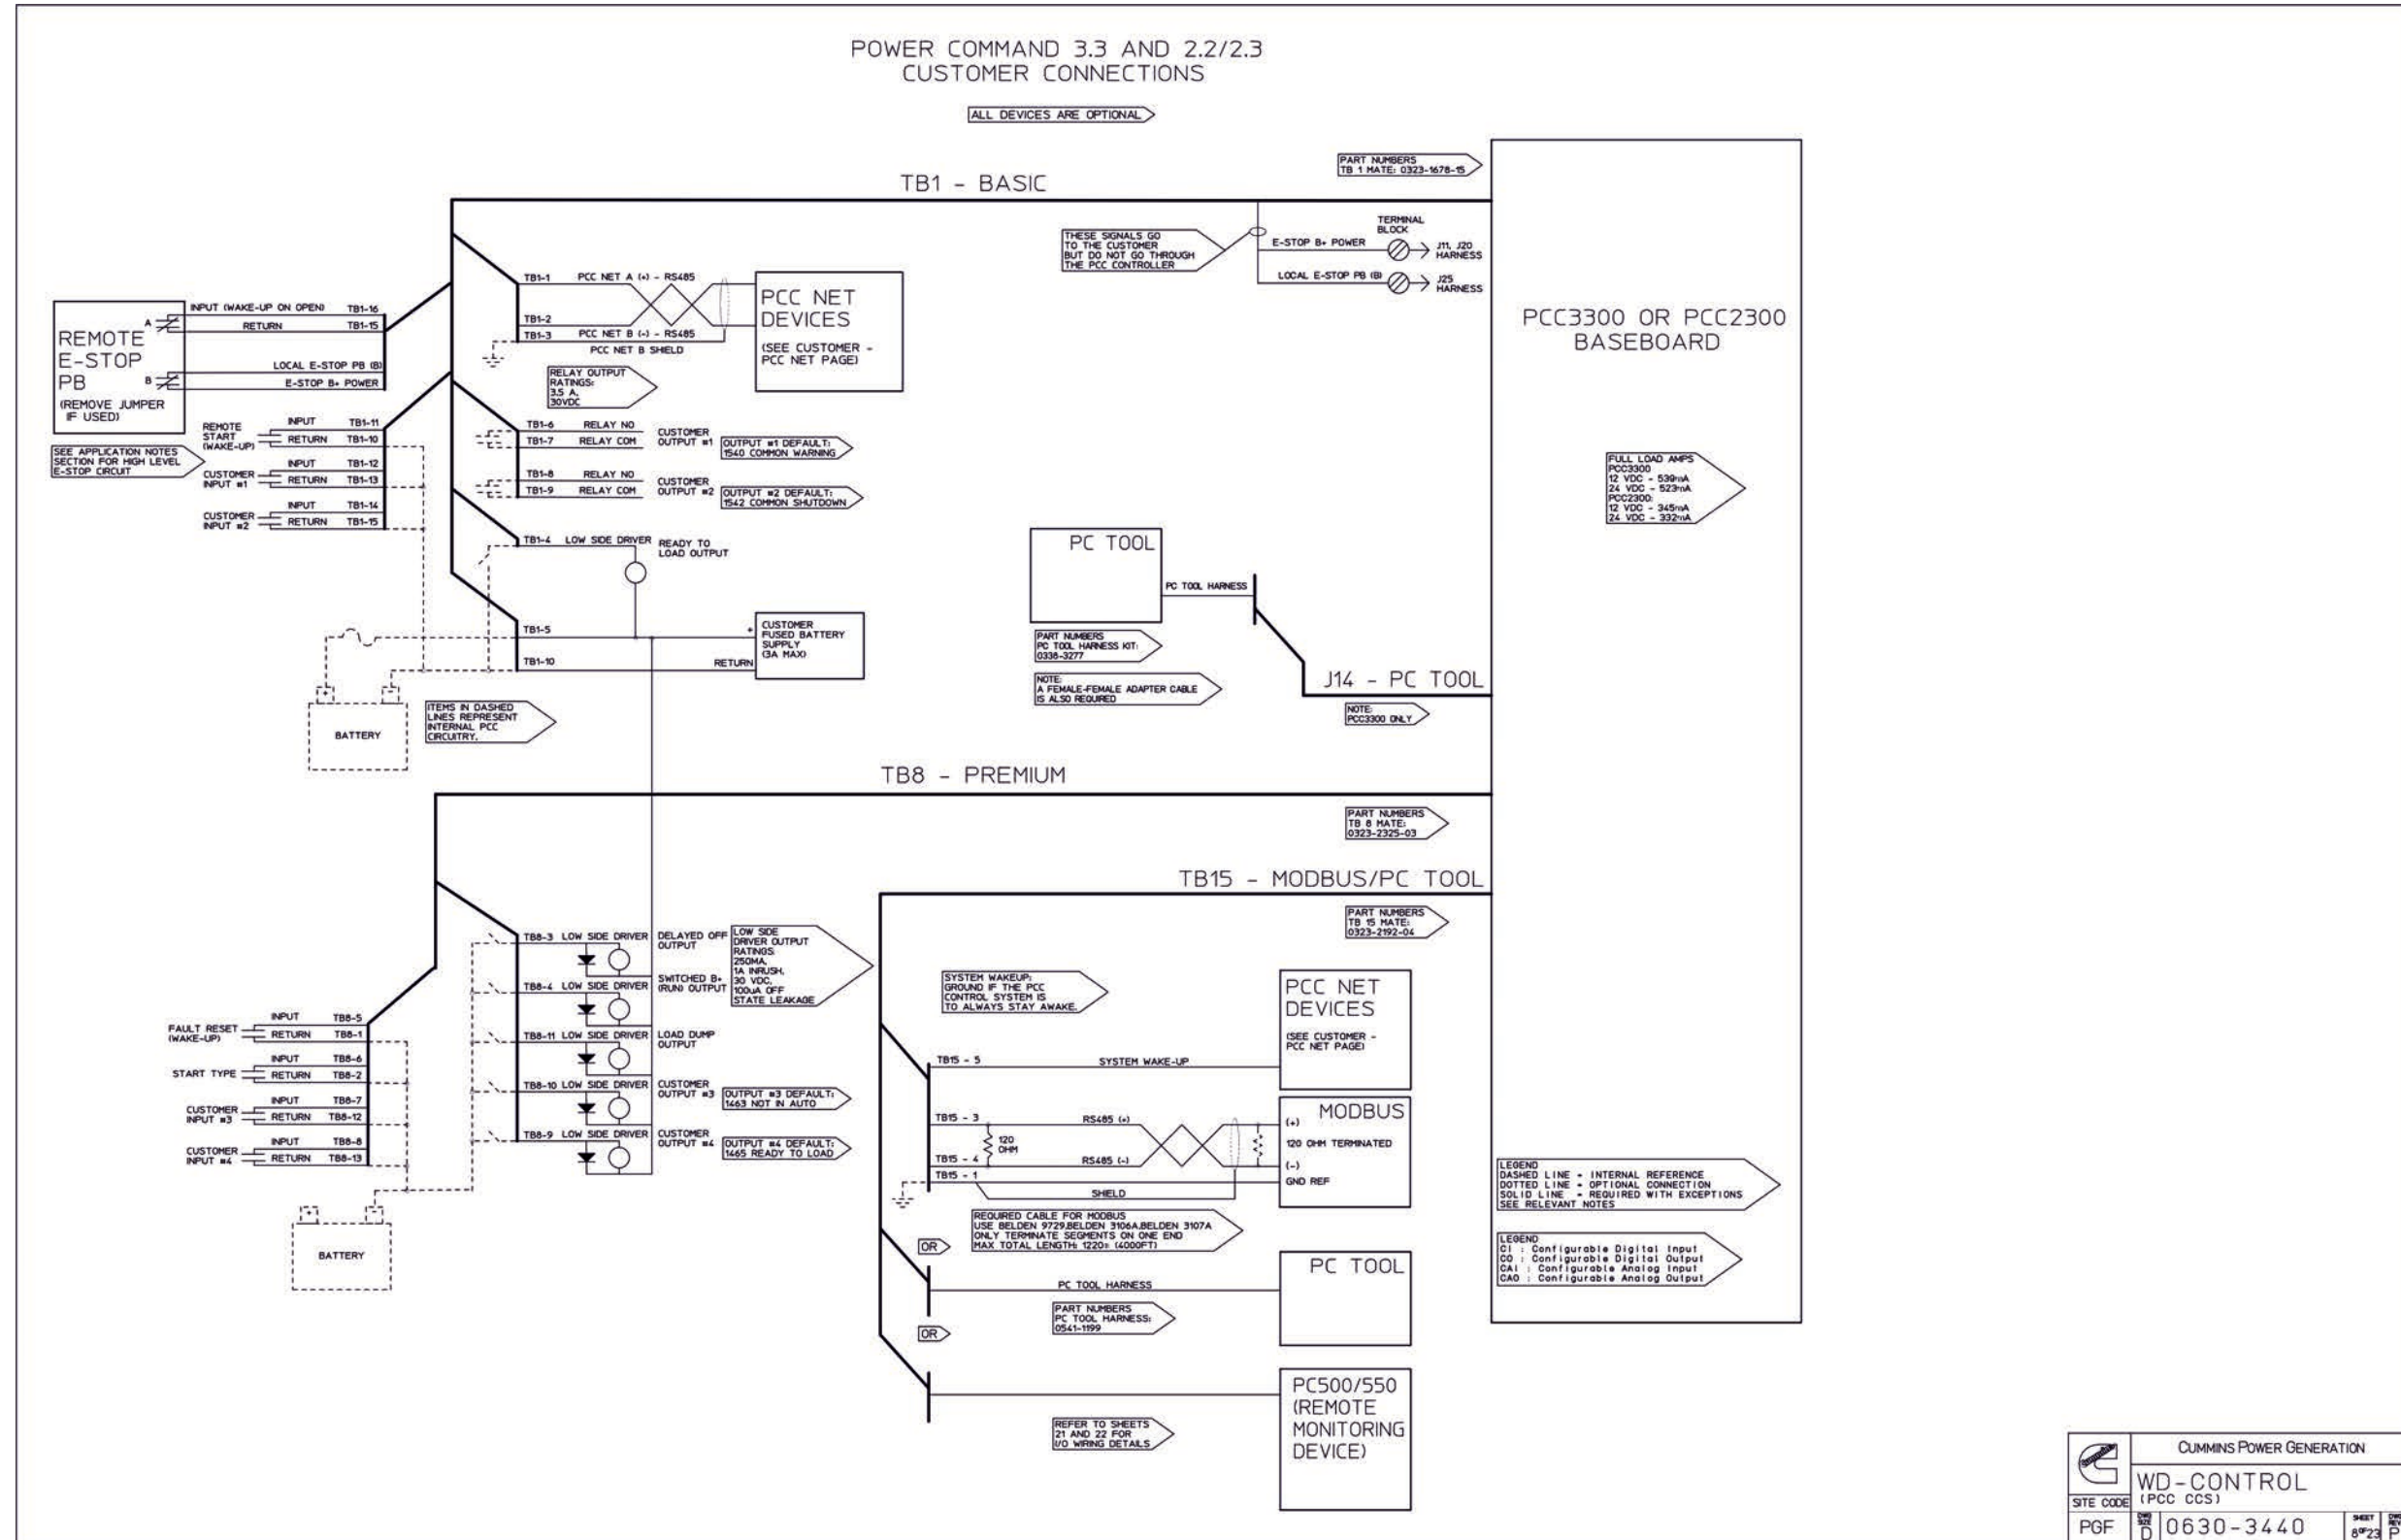

FIGURE 73. PCC CUSTOMER CONNECTIONS
- Figure 73. PCC Customer Connections 449